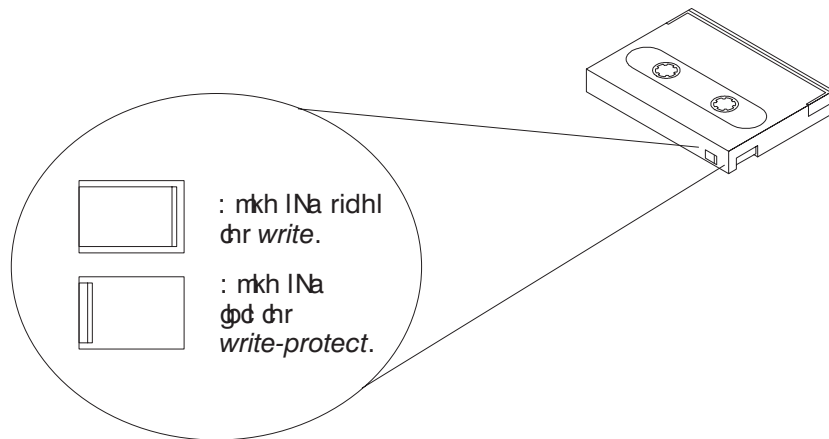

Figure 3–2. Setting the Write-Protect Tab on a DDS Tape
You can only store or change information on a data cassette when the write-protect tab is in the *write* position. So, before trying to write to the data cassette, make sure that the write-protect tab is in the *write* position, as shown in Figure 3–2.
To protect information on a data cassette from being overwritten, set the write-protect tab to the *write-protect* position, as shown in Figure 3–2.
4. To remove the data cassette, press and release the eject button on the front of the drive, as shown in Figure 3–3. The LEDs on the drive flash on and off. Ten to twenty seconds later, the data cassette slides partway out of the drive. Remove the cassette from the drive.